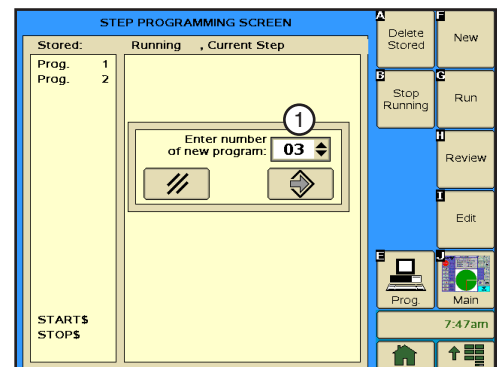

Figure 139-2 1. New Program Number Field
1. Push **Prog.** and **Step Prog.** to view the Step Program screen. Refer to Figure 139-2.